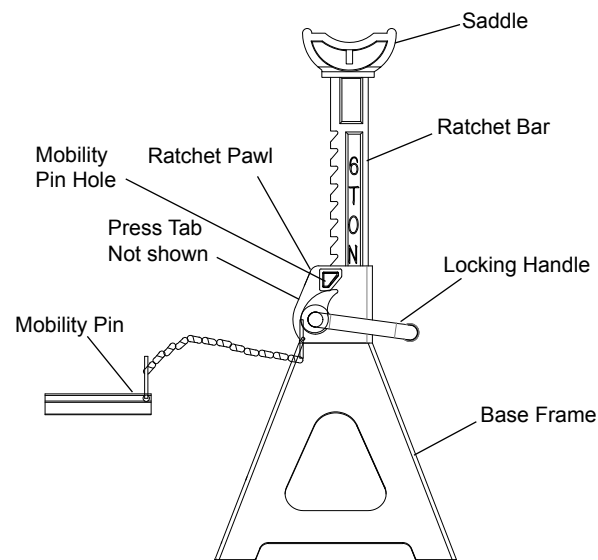

Figure 1 - Typical Jack Stand Nomenclature
3. Verify the product and your application are compatible. If in doubt, contact Omega Lift Customer Support @ (888)332-6419.
6. Ratchet bar/collar lock is accomplished by bending the press tab (Fig.1) inward using a suitable hammer and punch. This will prevent inadvertent loss of the ratchet bar.